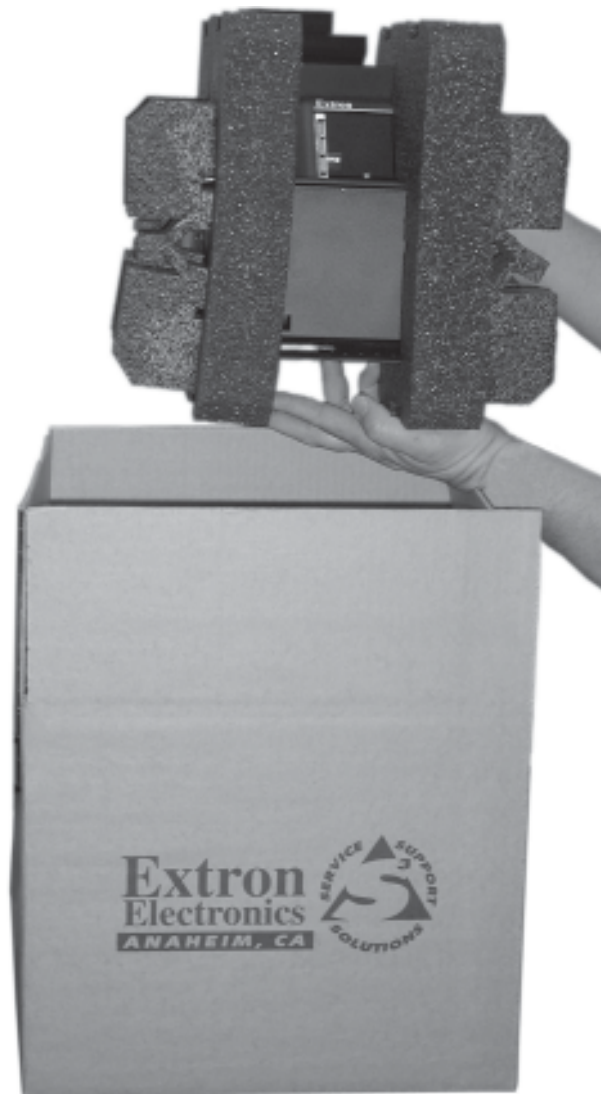

Figure B-7 — Placing the HSA in the shipping carton
10. Lower the foam-protected HSA into the shipping carton (figure B-7).